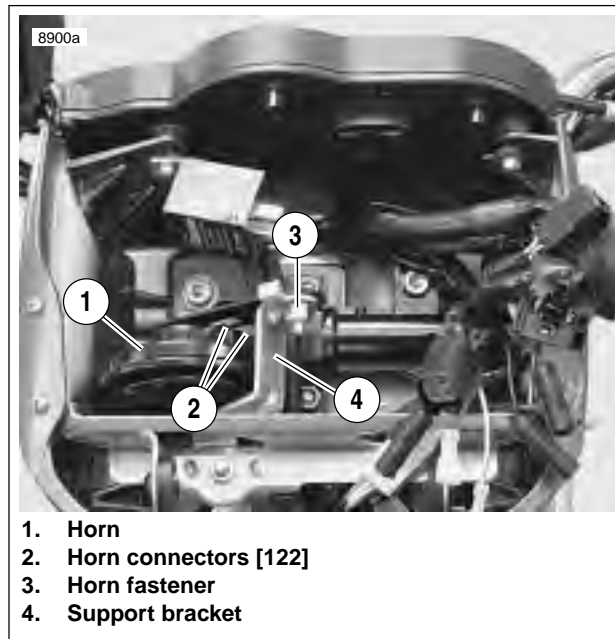
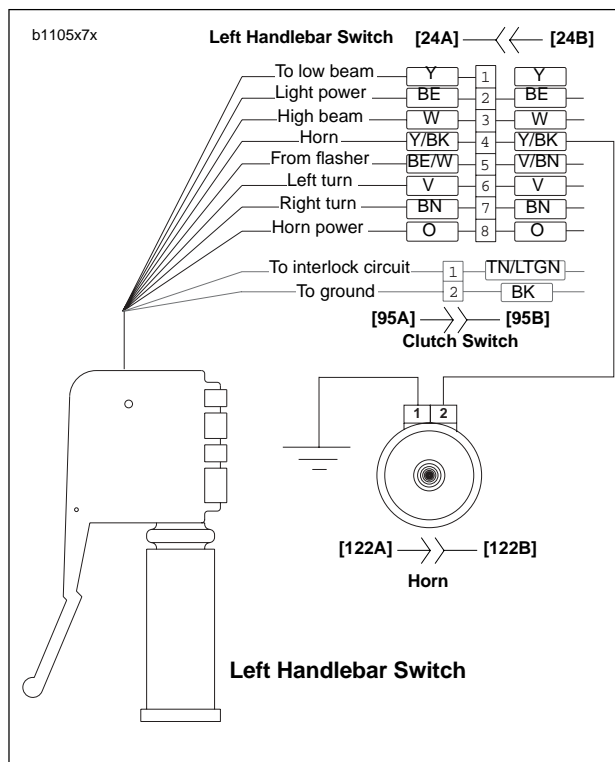

Figure 7-70. Horn Assembly
Figure 7-71. Horn Wiring
4. See Figure 7-70. Remove fastener (3).
5. Remove horn (1) from fairing support bracket (4).
6. See Figure 7-71. Detach Y/BK power wire and BK ground wire from terminal clips on horn.
1. See Figure 7-71. Connect Y/BK power wire and BK ground wire to terminal clips on horn.
2. See Figure 7-70. Attach horn (1) to fairing support bracket (4) using fastener (3). Tighten to 72-96 **in-lbs** (8.1-10.8 Nm).
- a. See Figure 7-71. Remove Y/BK power and BK ground wires from terminal clips.